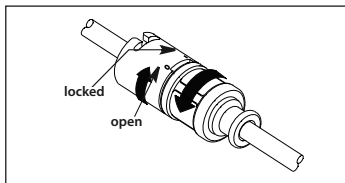

Figure 3
- b. If using a catheter contamination shield with TwistLock™ adapter (where provided), ensure double TwistLock of catheter contamination shield is fully opened (refer to Figure 3).